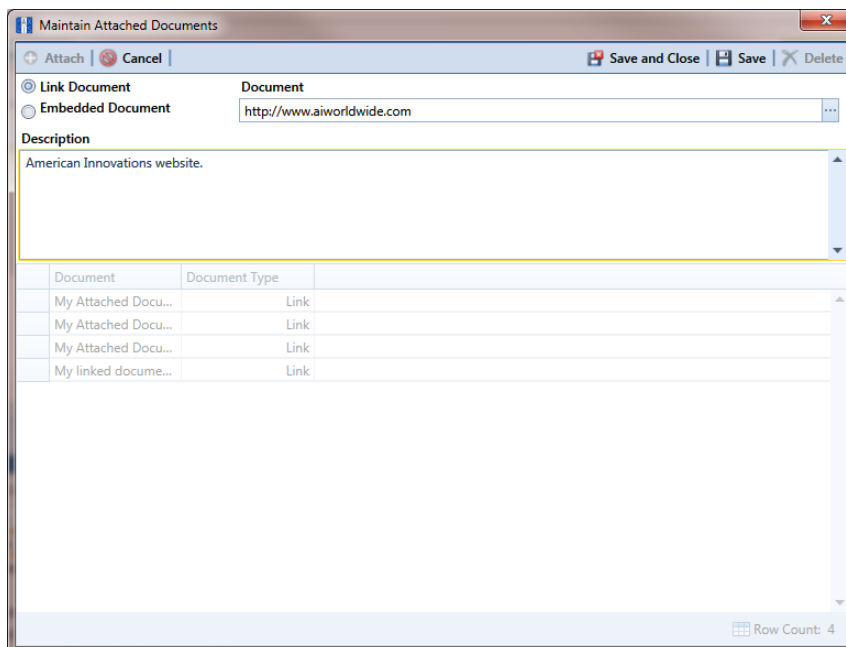

Figure 4-27. Maintain Attached Documents
- 8 If you selected *Link Document* in **step 6** and want to add a link to a webpage on the Internet, follow these steps (Figure 4-27):